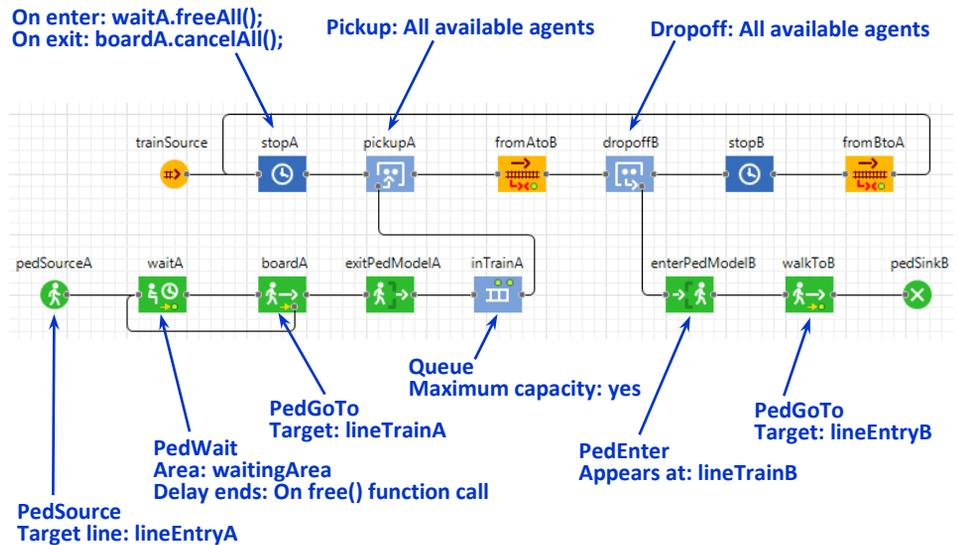

Figure 9.29 The complete flowchart including the pedestrian part
12. Open the **Process Modeling Library** palette and insert **Pickup** and **Dropoff** blocks into the rail flowchart as shown in Figure 9.29. Set their **Pickup/Dropoff** parameters to **All available agents**.
13. Open the **Pedestrian Library** palette. Add the pedestrian flowchart and set the parameters of the blocks as shown in Figure 9.29.